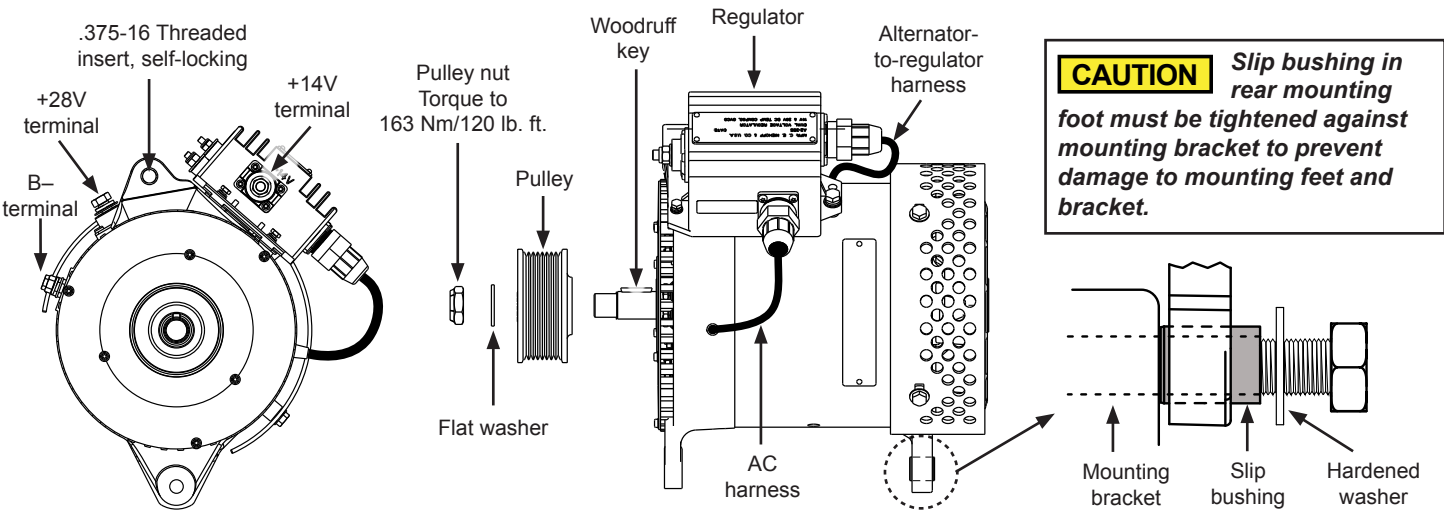

Figure 1: C633 Alternator Connections
2. Install pulley with furnished flat washer and locknut. Torque pulley nut to 163 Nm/120 lb. ft. See Figure 1.
8. Connect alternator-to-regulator harness and AC harness to regulator as shown in Figure 1.